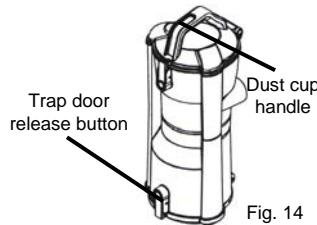

Fig. 14
1. To empty the dust cup, hold the dust cup from the handle over a garbage container and press on the trap door release button that is on the front bottom part of the dust cup container to release the trap door. (Fig. 14)